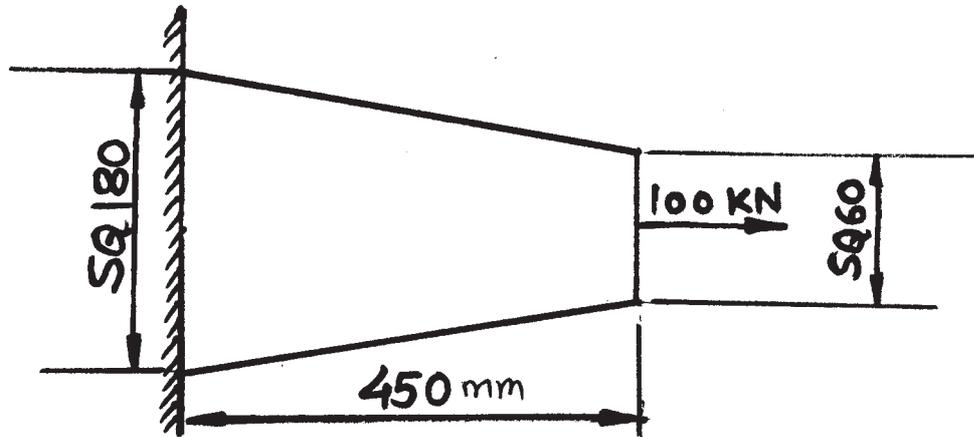

Figure 3, Q 6(b)
- Q6) Two cantilevers are united together by means of pin at B as shown in figure 3. For the loads acting, find fixing moments at A & C. Use stiffness matrix method. EI is uniform. [18]
b) A tapered bar is shown in figure 3. Model the bar by considering it as made up of 3 elements of equal length and hence find out the deflection of free end and reaction at support using elimination approach. Also find the stress at the midpoint. Assume  $E = 2 \times 10^5 \text{ N/mm}^2$ . [12]